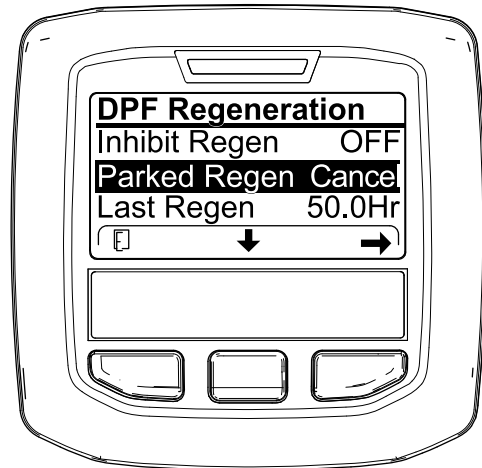
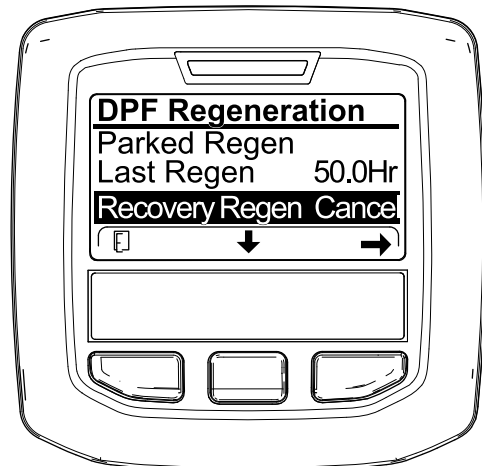

Figure 71
Figure 72
1. Access the DPF Regeneration menu (Figure 71).
2. Press the center button to scroll down to the PARKED REGEN CANCEL (Figure 71) or the RECOVERY REGEN CANCEL option (Figure 72).
3. Press the right button to select the Regen Cancel entry (Figure 71 or Figure 72).